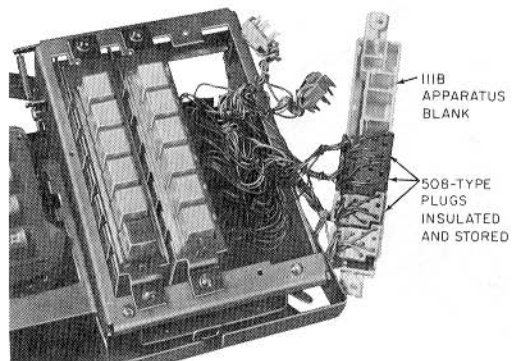

Fig. 13—Insulating and Storing 508-Type Plugs on 111B Apparatus Blank
2.22 Insulate and store unused 508-type plugs on the 111B apparatus blank as shown in Fig. 13. Individual 508-type plugs can be insulated and stored by taping an 814632659 (P-46C265) cover over the contacts of the plug.